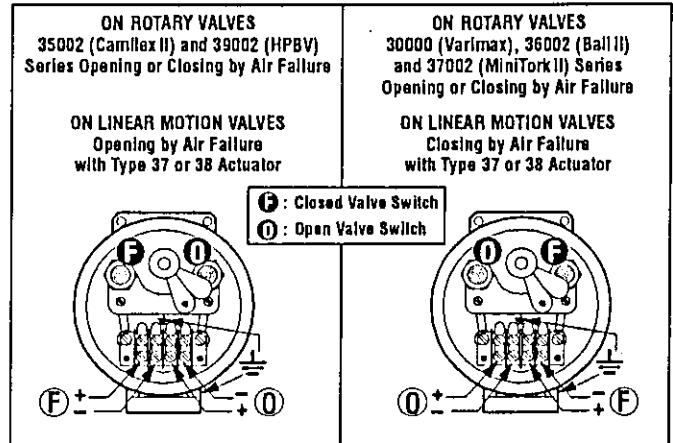

Figure 2 - Wiring Diagram
The wiring is performed by means of a terminal strip (24) located into the housing. See diagram of the Figure 2.